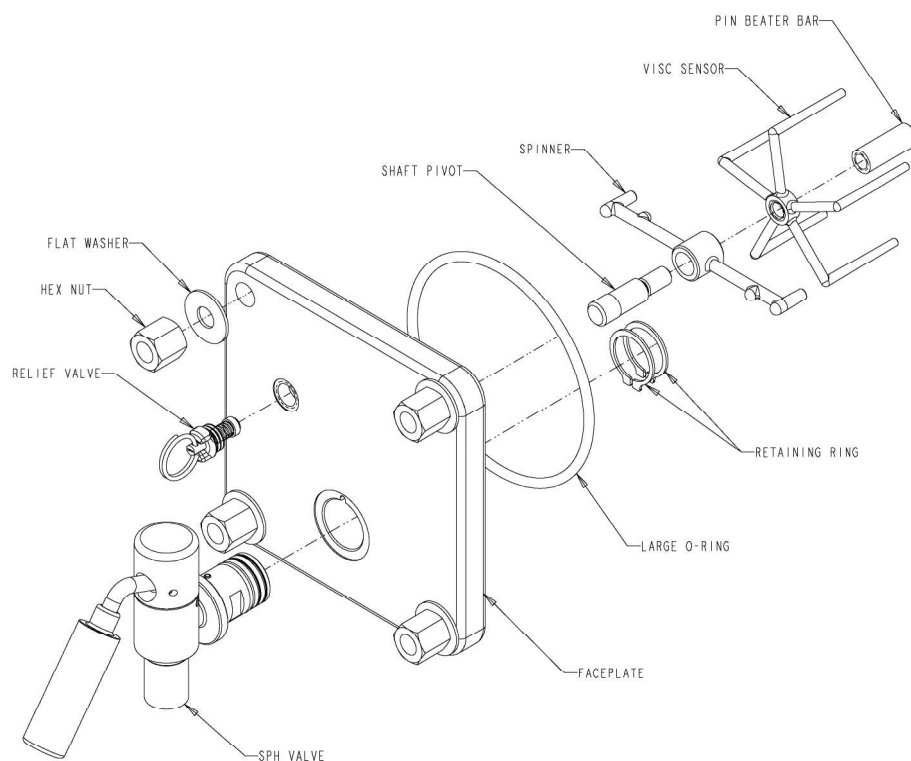

Figure 42.
5.	Disassemble the dispensing valve (see Figure 42).